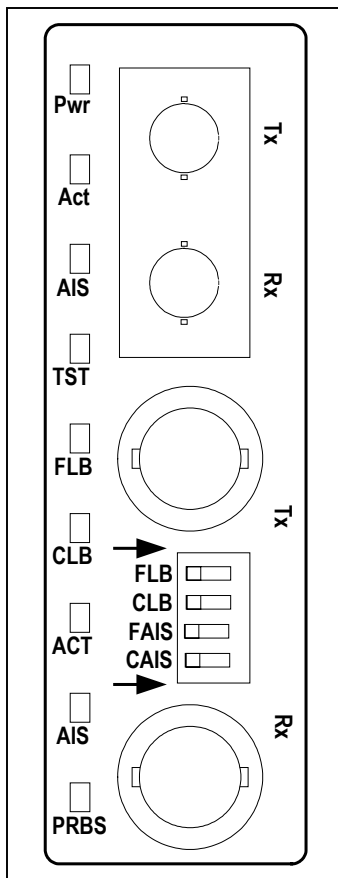

Figure 2. LED Indicators
5.3 The RLH DS3 Card provides LED Indicators on the front of the PCB. LED's show availability of power, the modes of operation, and data being received by the fiber and coax ports. See figure 2.